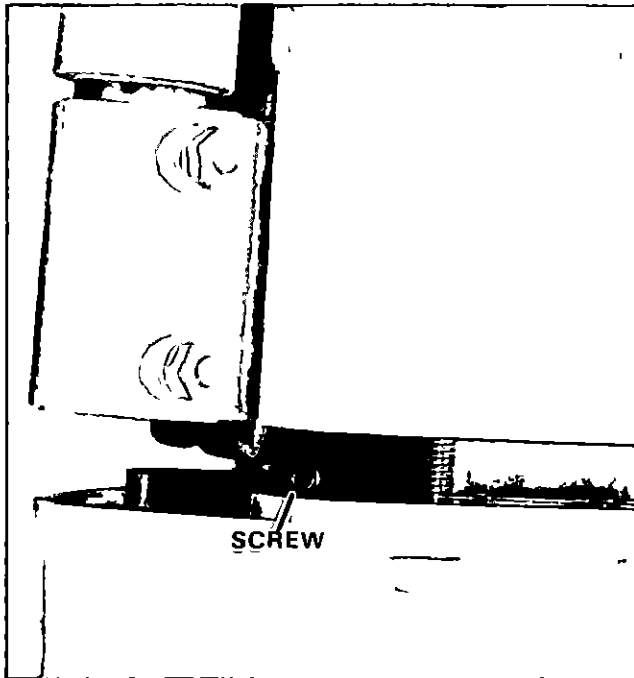

Figure 18 Removing Gear Housing
- 3 Pull gear housing down and remove screw joining gear shift rods Figure 18